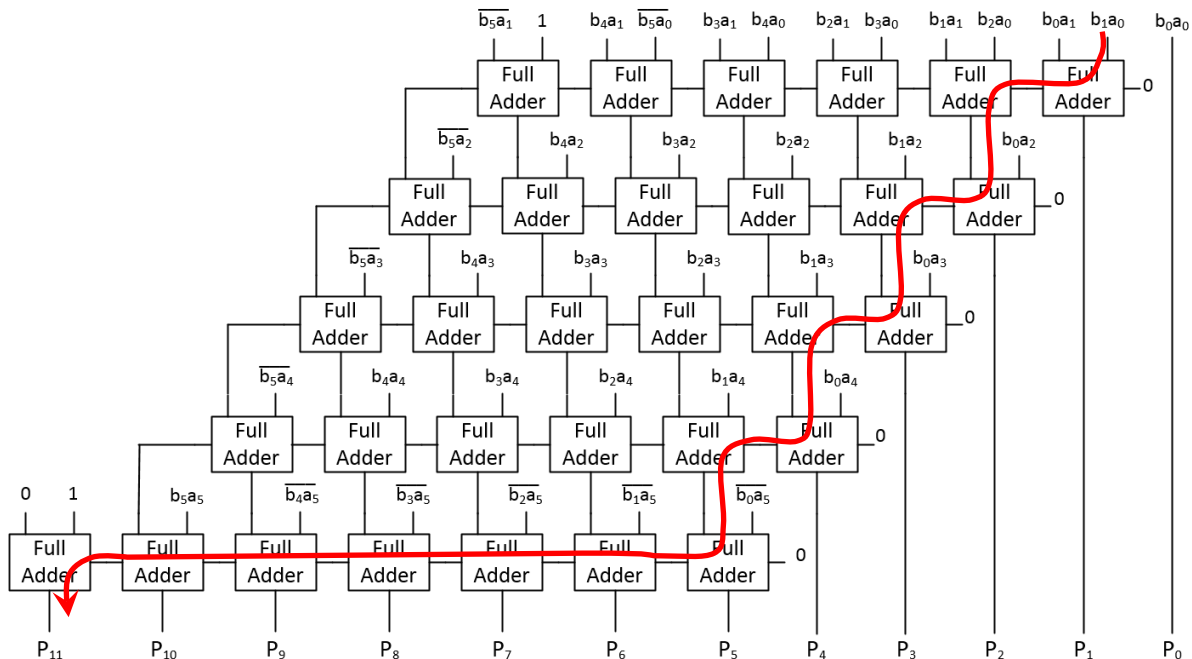
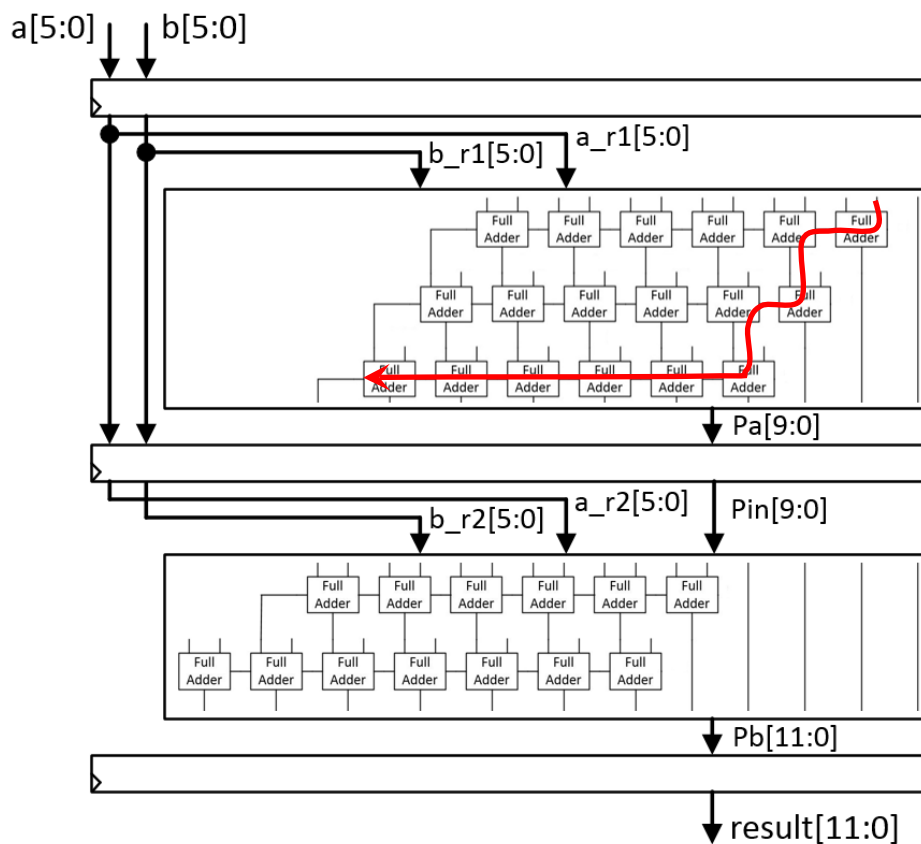

Fig. 3: The 6-bit x 6-bit 2's complement array multiplier implementation
Fig. 5: The block diagram of the pipelined multiplier
This is the standard Baugh-Wooley 2's complement multiplication algorithm which results in the array multiplier in Fig. 3. Note that there is no need for sign extension of the partial products. The Baugh-Wooley array multiplier usually is implemented using carry-save adder modules as this reduces the delay through the array. However, in FPGA, ripple carry adders are fast because of the fast carry chain logic within a logic slice, so it is easier to use standard adders (as shown in Fig. 3).
2. Add the Verilog design files (*AM_top.v* and *array_mult_6Bit.v*) to the design (select **+** OR **Add Sources** from **PROJECT MANAGER** in the **Flow Navigator** window). Note *array_mult_6Bit.v* is a non-parameterised 6-bit version of the multiplier that directly matches to Fig. 3.
- Note that WNS is positive means, even the *slowest* (worst-case) data path meets timing with margin. With a 9 ns clock, Longest data path delay (shown by the red line in Fig.3) $\approx 9\text{ns}$ - WNS. We still have WNS of safety margin.
- First, examine the block diagram of the multiplier shown in Fig. 3. Note that the critical path is from the inputs to the full adder (FA) block at the top right (b_0a_1 and b_1a_0) to the output from the FA block at the bottom left (P_{11}) and is 15 FA delays.
- So we need to partition the adder somewhere such that the critical path in the two partitions stays roughly the same. From Fig. 3, inserting a pipeline register between the 3rd and 4th adder blocks, gives a critical path of 10 FA delays for the top partition (9 for the bottom). The pipelined design is as shown in Fig 5 (and should use the same signals).
5. Next open *multB.v*. It uses the original *a* and *b* inputs as well as the 10-bit product (*Pin*) generated in *multA.v* and produces a 12-bit result (*P*). Verify that the two new modules match those shown in Fig. 5.